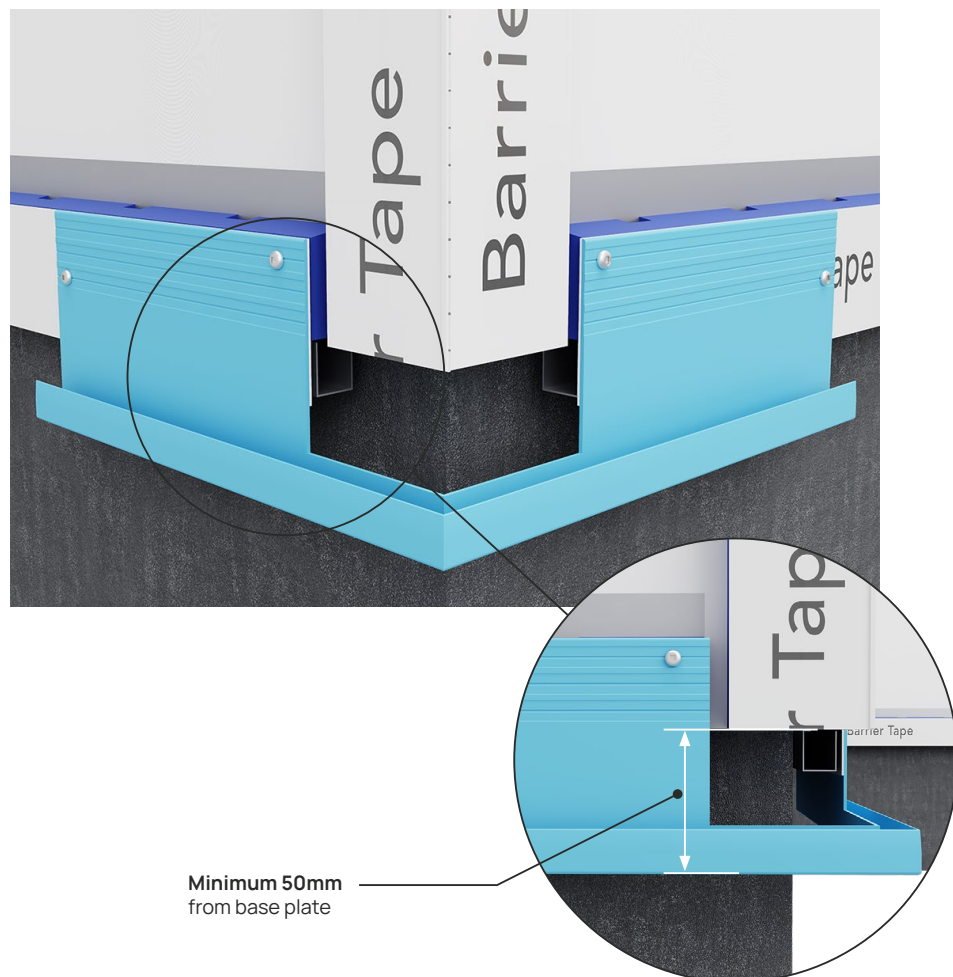

FIGURE 10: PRE-FABRICATED BASE CHANNEL FIXING
- Screw fix the pre-fab base channel corners as it is likely you will be adjusting its position. - See Figure 10.